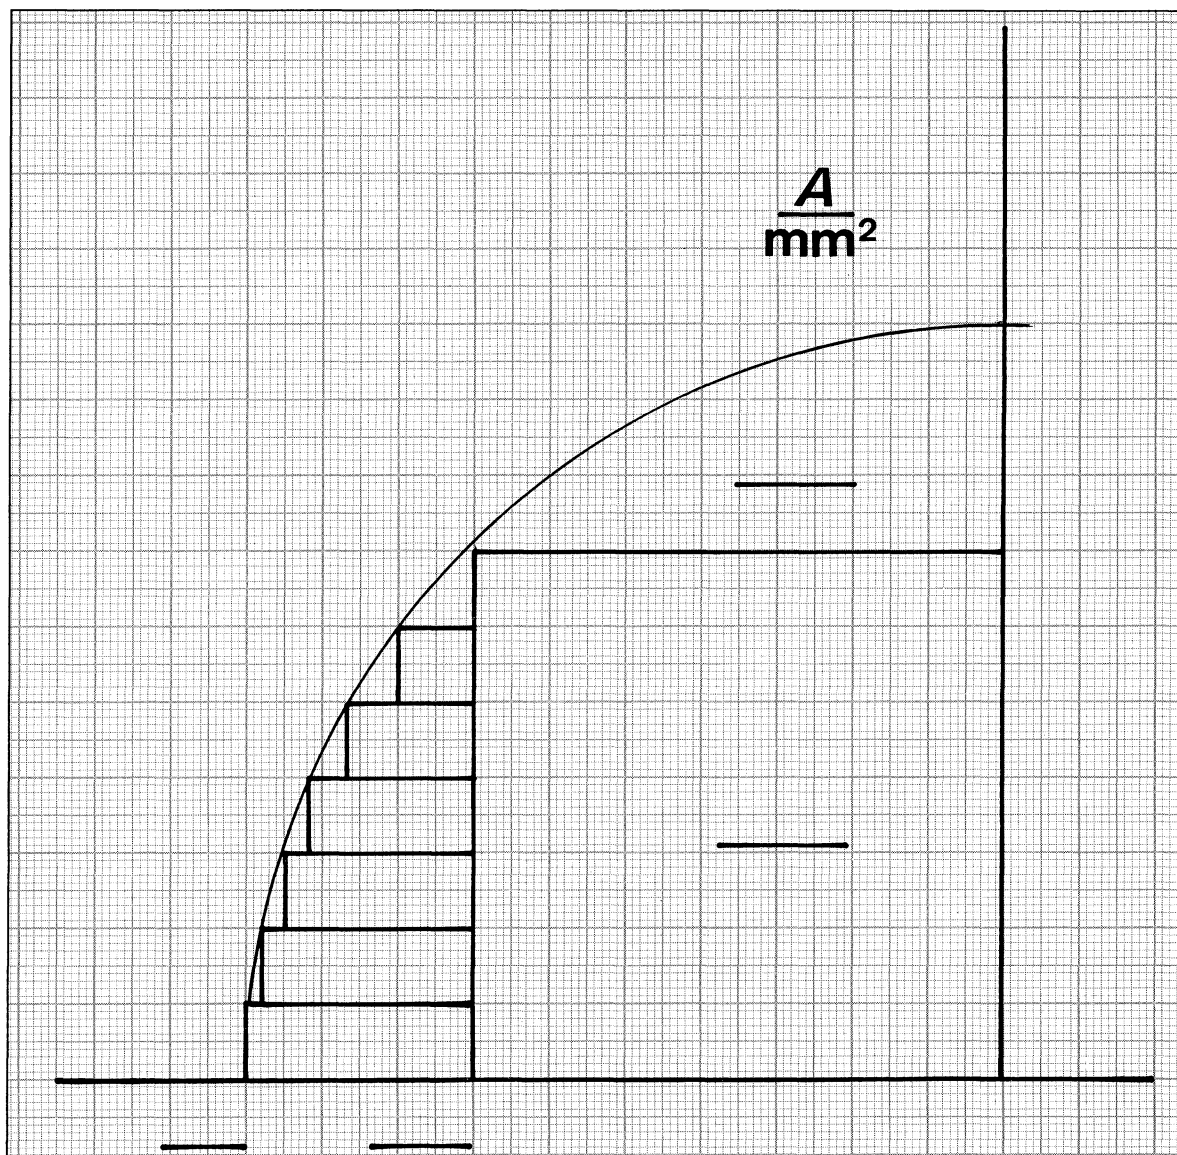

Fig. 4 ► 9.
To test this method, you are going to calculate the area of the quarter circle ► Fig. 4.
► Fig. 4
- What value for the superficial area A_1 of a circle with $r = 10$ cm do you get if you use the counting method? Give your answer for the surface area A_1 of the circle in cm^2 ! ► Fig. 4.